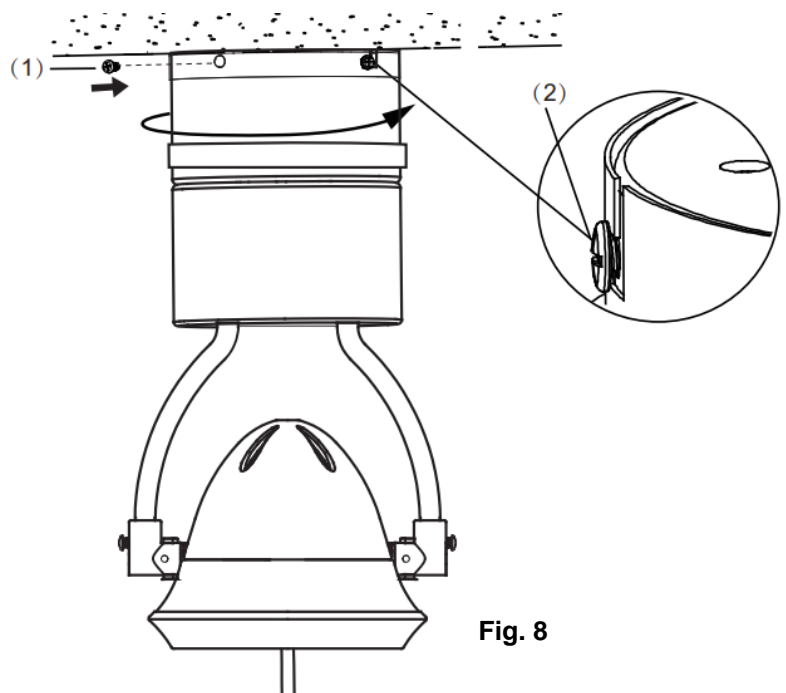

Fig. 8
- Secure and tighten the canopy screws (1) to the mounting bracket. The hanging canopy (3) shall have 4 screws (1) & (2) in total. Avoid damaging the electrical wiring prepared previously when hanging the canopy. (Fig.8)